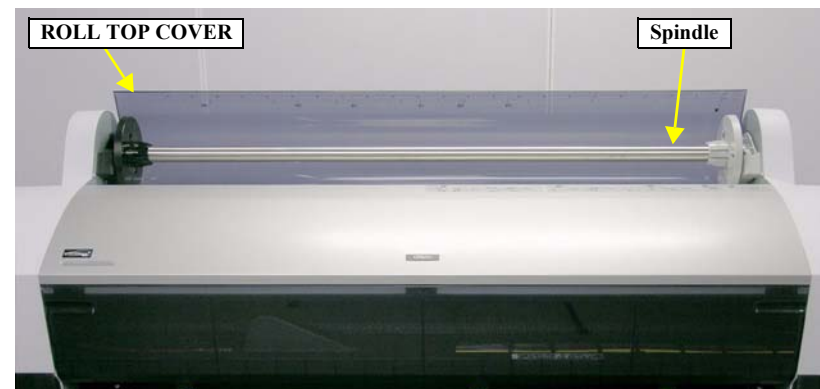

Figure 4-13. Removing the Spindle
2. Remove the Spindle. *See Figure 4-13.*